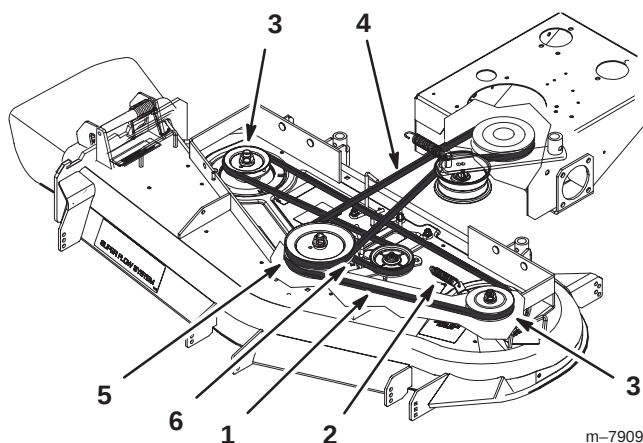

Figure 64
5. Disconnect the idler arm spring to relieve tension on the idler arm and idler pulley, then remove the worn deck belt (Fig. 64).
6. Install the new deck belt around the two outside spindle pulleys, the idler pulley, and in the lower groove of the center spindle pulley (Fig. 64).
7. Connect the idler arm spring (Fig. 64).
9. Adjust deck belt guide an 1/8 inch (3 mm) from belt (Fig. 64).